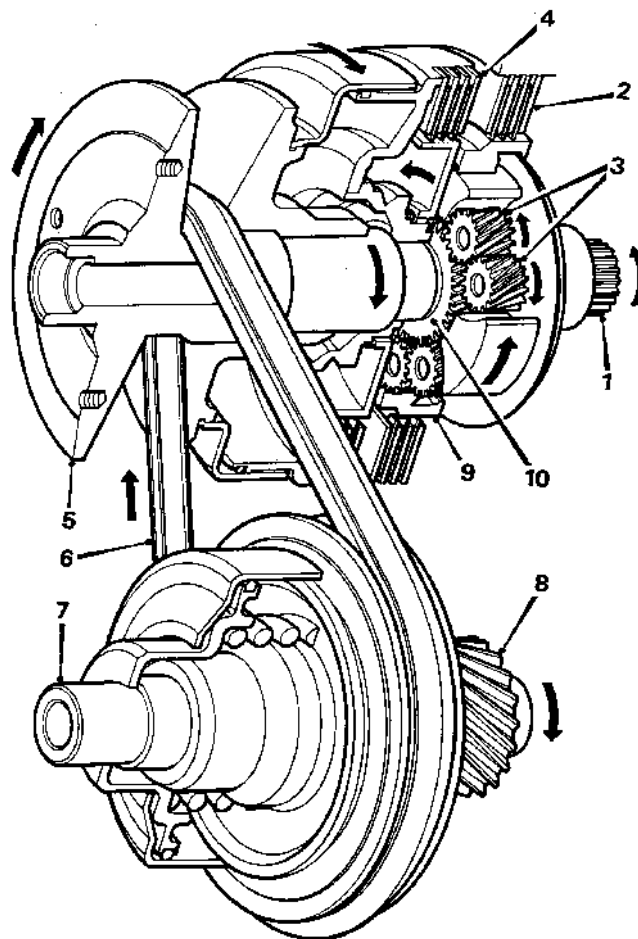

Figure 21
Under this condition, the reverse clutch (2) is engaged and makes the annular ring gear (9) lock with the epicyclic gear train of the gearbox. The planetary gears (3) force the sun gear (10), the primary pulley (5) and the secondary pulley (7) to turn in the opposite direction to the gearbox input shaft (1). Therefore reverse gear is now obtained (see Figure 21).
- The gearbox input shaft (1) turns at the same speed as the engine
- The reverse clutch (2) is engaged
- The forward clutch (4) is disengaged
- The annular gear (9) is held stationary with the gearbox by means of the reverse clutch (2)
- The planetary gears (3), which are driven directly by the gearbox input shaft (1), turn around the annular gear (9). Therefore they force the sun gear (10), the pulley (5) and the secondary pulley (7) to turn in the reverse gear direction